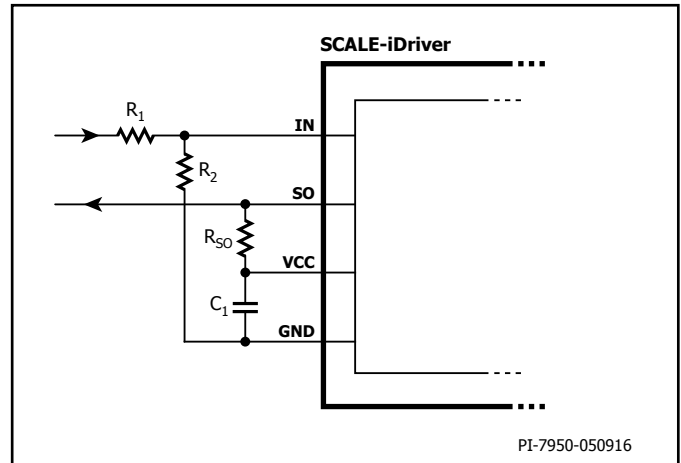
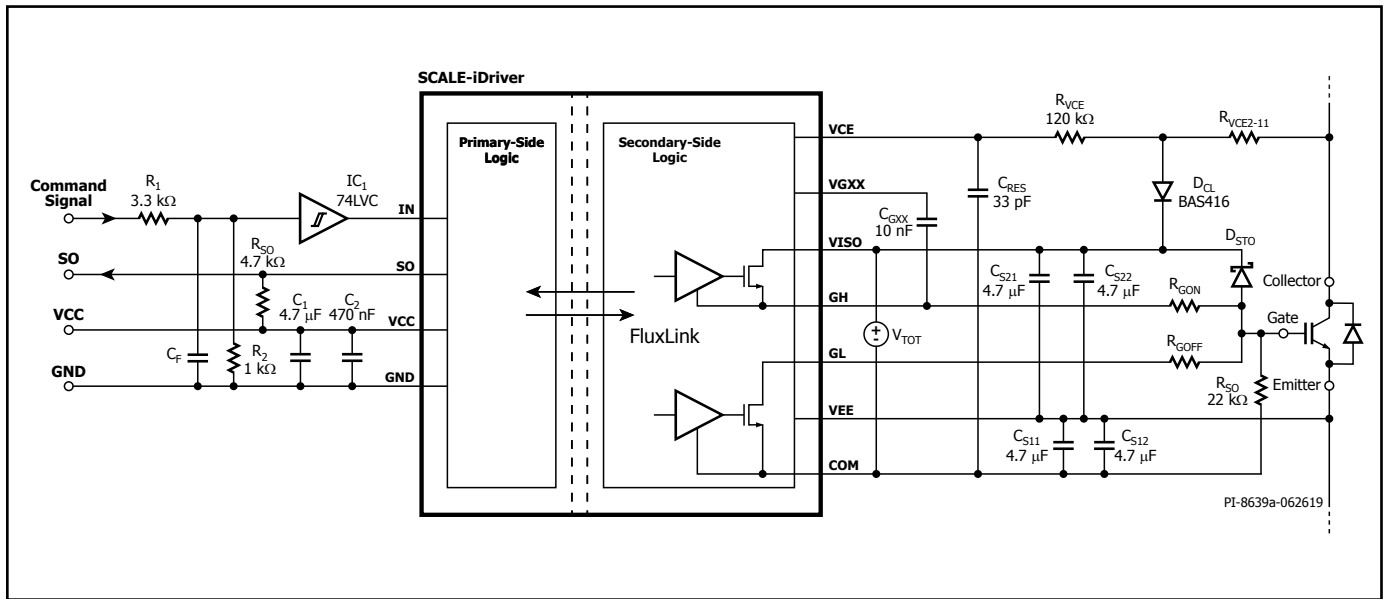

Figure 5. Increased Threshold Voltages V_{IN+LT} and V_{IN+HT} For $R_1 = 3.3 \text{ k}\Omega$ and $R_2 = 1 \text{ k}\Omega$ the IN Logic Level is 15 V.
Figure 13. SCALE-iDriver Application Example using a Resistor Network for Desaturation Detection.
The input (IN) and output (SO) logic is designed to work directly with micro-controllers using 5 V CMOS logic. If the physical distance between the controller and the SCALE-iDriver is large or if a different logic level is required the resistive divider in Figure 5, or Schmitt-trigger ICs (Figures 13 and 14) can be used. Both solutions adjust the logic level as necessary and will also improve the driver's noise immunity.
and power-down. Any supply voltage related to VCC, VISO, VEE and VGXX pins should be stabilized using ceramic capacitors C_1 , C_{S1X} , C_{S2X} , C_{GXX} respectively as shown in Figures 13 and 14. After supply voltages reach their nominal values, the driver will begin to function after a time delay t_{START} .
Figure 13 shows how switch desaturation can be measured using resistors $R_{VCE2} - R_{VCE1}$. In this example all the resistors have a value of 100 kΩ using 1206 package. The total resistance is 1 MΩ. The resistors should be chosen to limit current to between 0.6 mA to 0.8 mA at maximum DC-link voltage. The sum of $R_{VCE2} - R_{VCE1}$ should be approximately 500 kΩ for 600 V semiconductors. In each case the resistor string must provide sufficient creepage and clearance distances between collector of the semiconductor and SCALE-iDriver. The low leakage diode D_{CL} keeps the short-circuit duration constant over a wide DC-link voltage range.
Table 3. PCB Layout and Component Guidelines Referring to Figure 13.